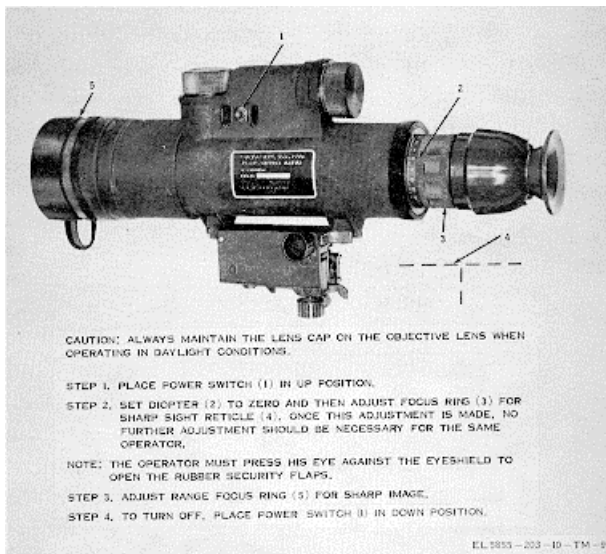

Figure 2-7. Operating procedure.
The operating procedure is given on figure 2-7.
- (1) Place or select a target at the desired zeroing range. Assume a comfortable prone position and support the weapon and night vision sight combination with sand-bags, stakes, or any other available equipment that will afford maximum stability.
- (2) Carry out operating instructions as given in figure 2-7.
- (3) Place the reference aiming point on the center of mass of the target, and fire enough rounds to obtain a good shot group on the target. Check the target to determine the location of the center of the shot group in relation to the point of aim.
- (4) Adjust the night vision sight to move the aim reference point to the center of the shot group. When making adjustments for errors in elevation or azimuth, the night vision sight must be moved in the direction of the error. For example, if the shot group is high and to the left of the point of aim, compensate for this error by moving the night vision sight to the left and raising it.